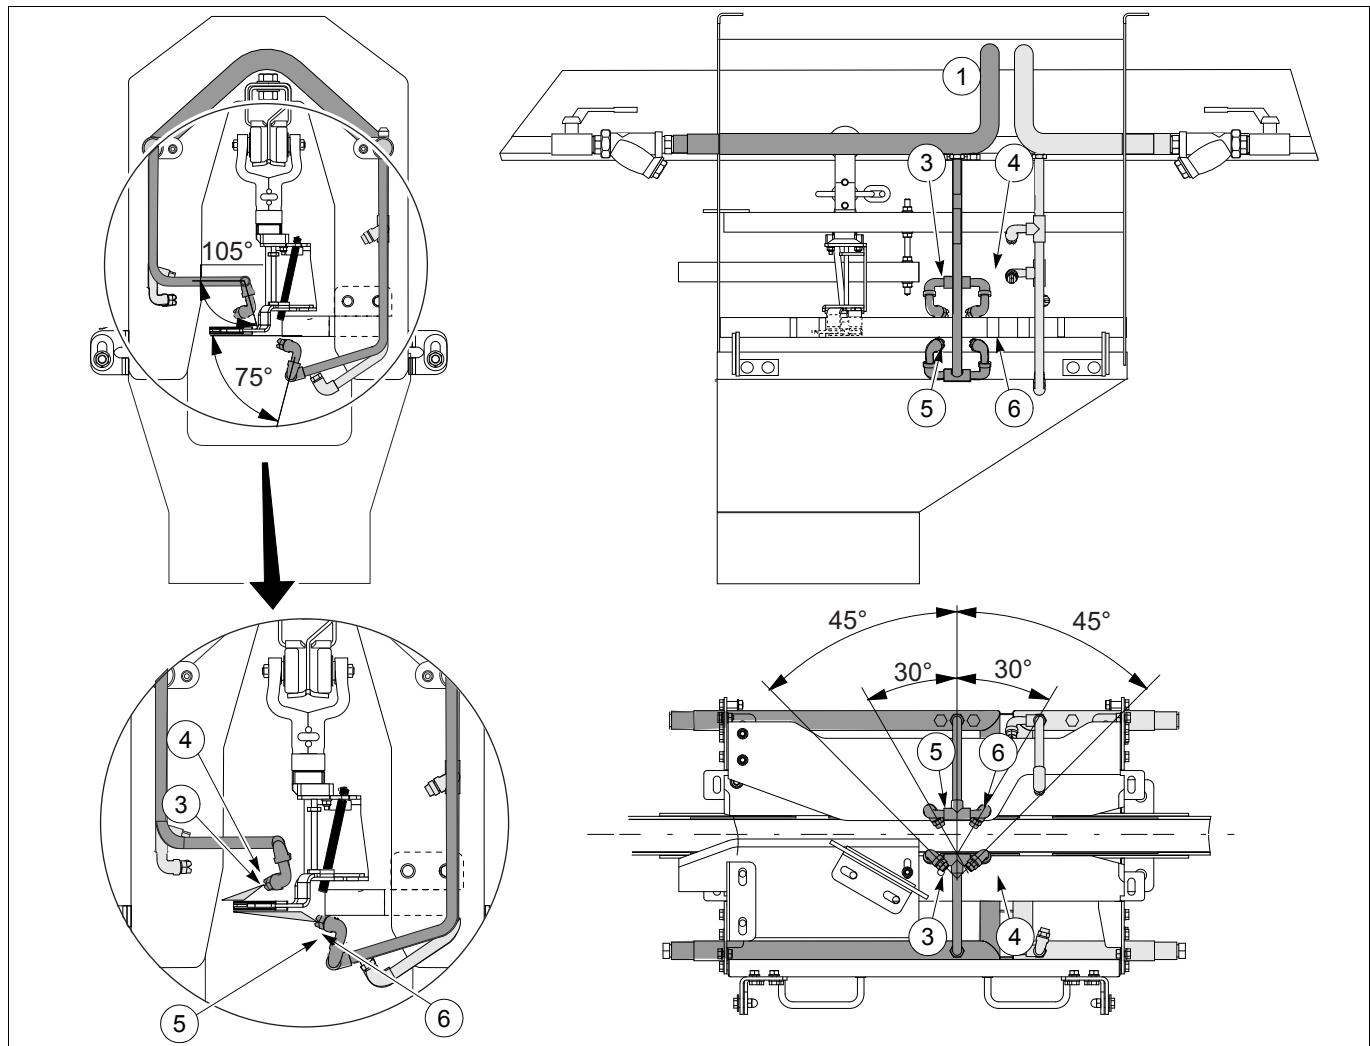

fig. 29 Setting the spray nozzles
- Set flat jet spray nozzle **3**, **4**, **5** and **6** as indicated in fig. 29.